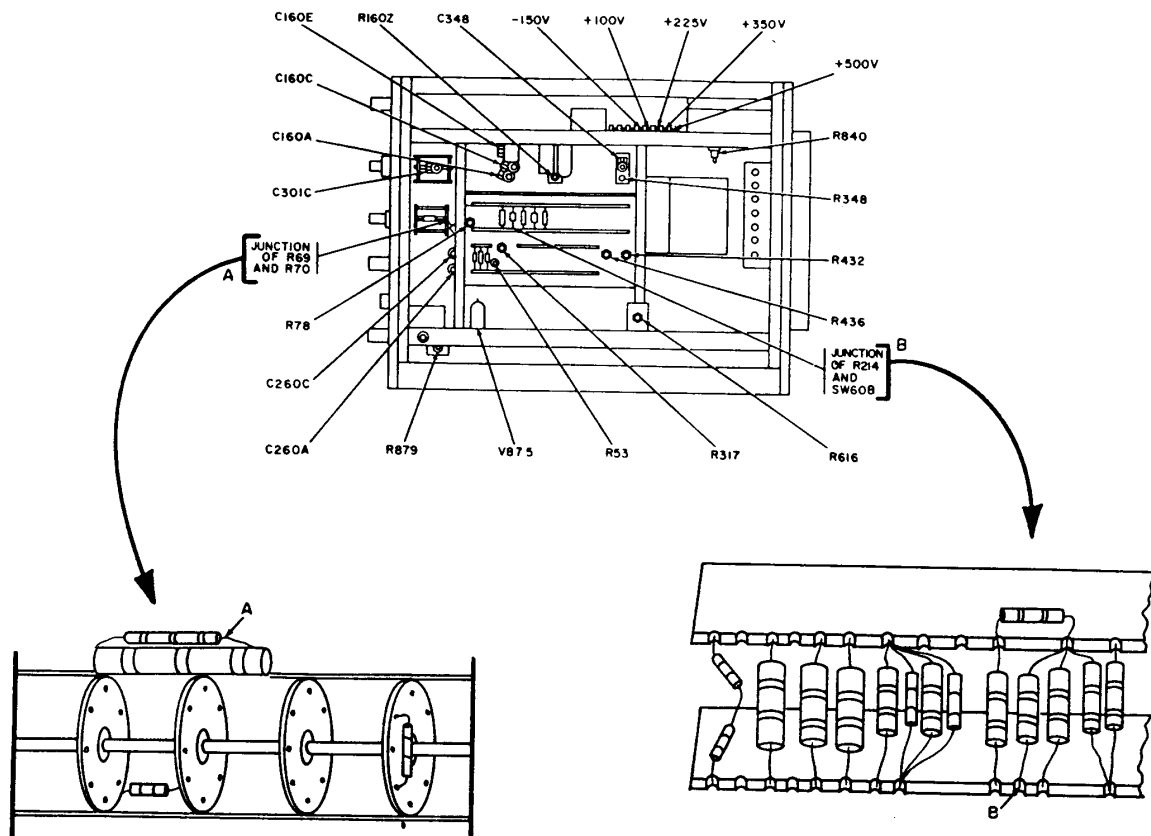

Figure 2. Oscilloscope - right side view (454A), bottom view (RM45A).
(1) Turn TI POWER switch to off position (down) and remove tube V875 (fig. 2) from TI.
(2) Turn TI POWER switch to ON.
(3) Connect ac/dc voltmeter (A1) between TI CAL OUT connector and chassis ground using two leads (B7).
(4) Turn TI AMPLITUDE CALIBRATOR to 100 VOLTS. If ac/dc voltmeter does not indicate between 97 and 103 volts dc, adjust CAL ADJ R879 (fig. 2) until ac/dc voltmeter indicates 100 volts dc (R).
(4) Connect junction of R69 and R70 (fig. 2) to chassis ground, using lead and adapter (B7 and B1).
(5) Turn TI TRIGGER SLOPE switch from +INT to -INT and back to +INT while observing crt waveform. waveform will invert and remain stable.
(6) Turn TI TRIG LEVEL CENTERING control R78 (fig. 2) fully clockwise and STABILITY control counterclockwise until waveform just disappears; then, turn two or three degrees farther.
(7) Turn TI TRIG LEVEL CENTERING control R78 counterclockwise until waveform reappears.
(8) Turn TI TRIGGER SLOPE switch from +INT to -INT and back to +INT. Adjust TRIG LEVEL CENTERING control R78 to obtain a stable waveform in both positions.
(9) Turn TI STABILITY control fully clockwise and TRIGGERING MODE switch to DC.
(10) Adjust calibration adapter VARIABLE control for 3 minor divisions of display on TI crt.